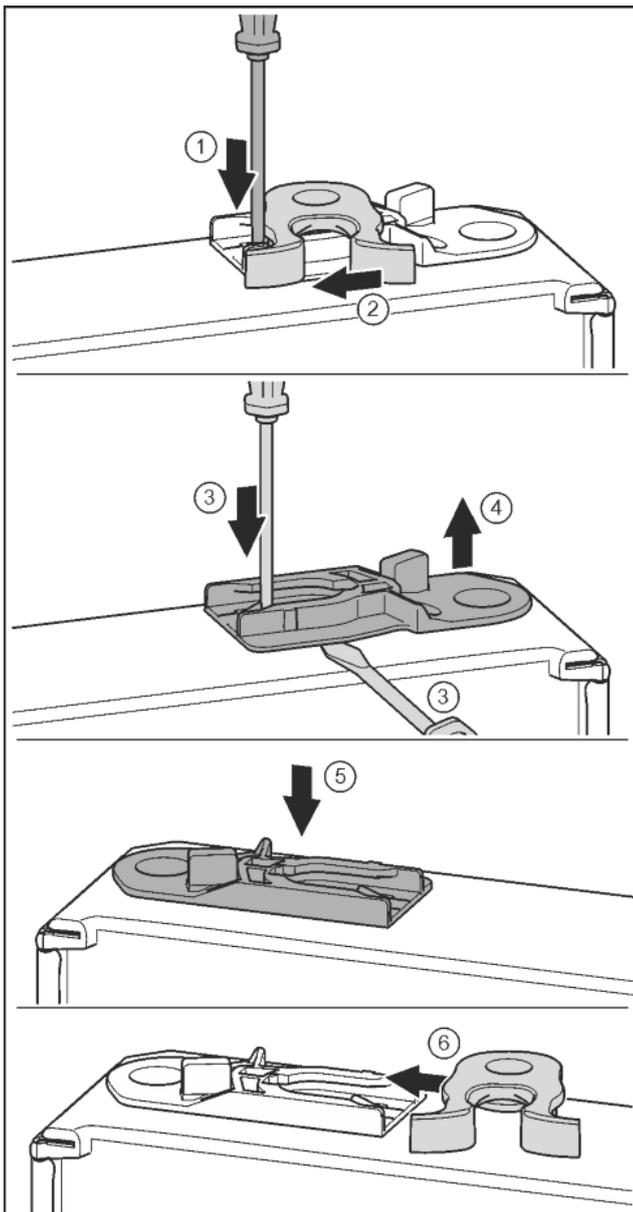

Fig. 18
- ▶ Push the lug downwards with a slotted screwdriver. Fig. 18 (1)
- ▶ Pull the door latch out of the guide. Fig. 18 (2)
- ▶ Remove the guide bush: Press tab with Phillips screwdriver and, at the same time, insert the Phillips screwdriver under the guide bush. Fig. 18 (3, 4)
- ▶ Slide guide sleeve enclosed in scope of supply onto other side of housing. Fig. 18 (5)
- ▶ Slide locking hook into guide. Fig. 18 (6)